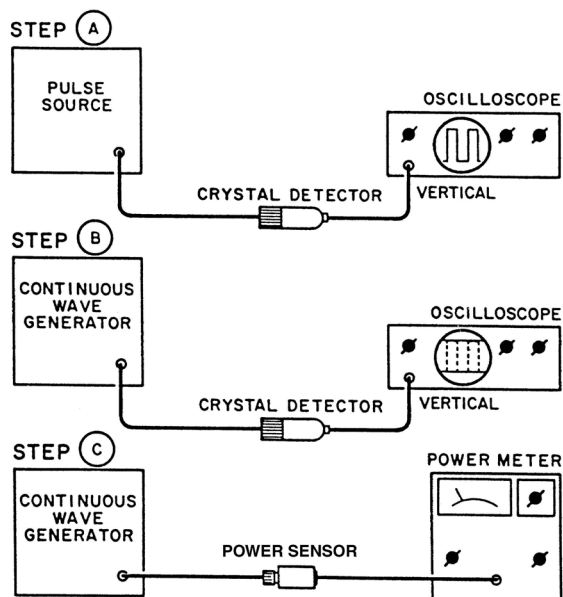

Figure 1 Peak power measurement
Refer to **Figure 1** for the equipment setup in the steps referenced below.
- a** Connect equipment as shown in **Figure 1**, step A.